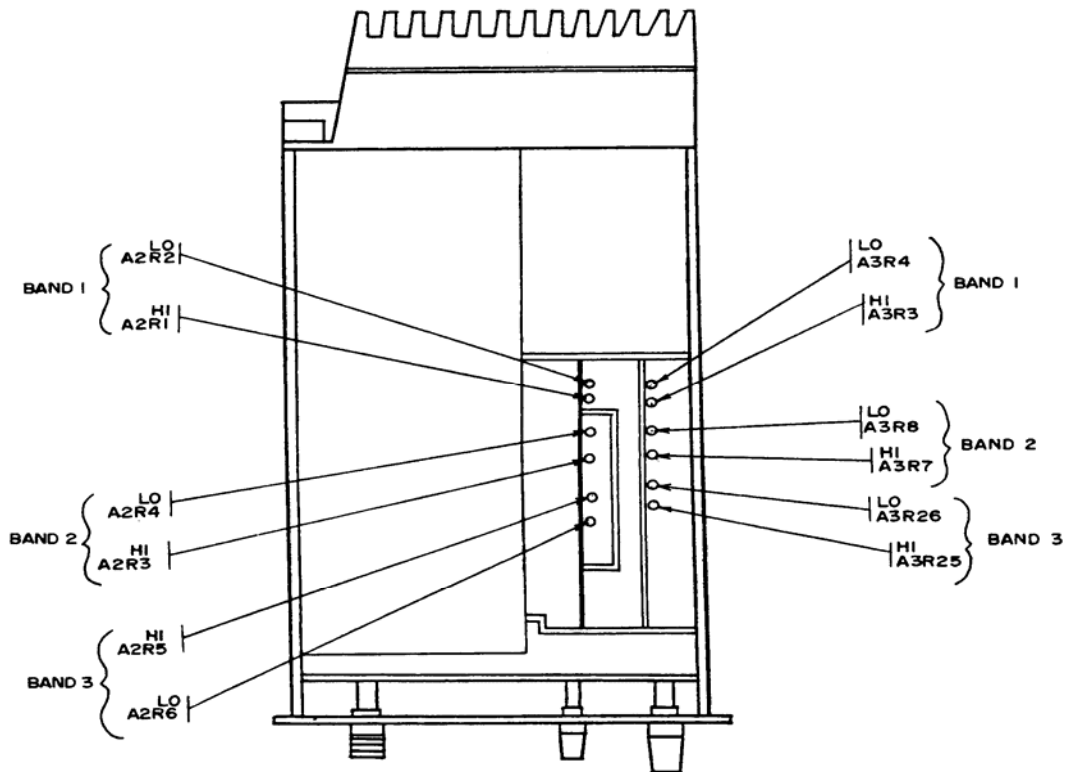

Figure 5. Model 86290A - top view.
(1) Adjust **BAND 1 LO A3R4** (fig. 5) for microwave frequency counter indication of 2.0 GHz, and **BAND 1 HI A3R3** (fig. 5) for 6.2 GHz (R).
(2) Adjust **BAND 2 LO A3R8** (fig. 5) for microwave frequency counter indication of 6.0 GHz, and **BAND 2 HI A3R7** (fig. 5) for 12.4 GHz (R).
(3) Adjust **BAND 3 LO A3R26** (fig. 5) for microwave frequency counter indication of 12.0 GHz, and **BAND 3 HI A3R25** (fig. 5) for 18.0 GHz (R).
(1) Adjust BAND 1 LO A2R2 (fig. 5) for maximum power over lower portion of **BAND 1 (R)**.
(2) Adjust BAND 1 HI A2R1 (fig. 5) for maximum power over upper portion of **BAND 1 (R)**.
(3) Adjust BAND 2 LO A2R4 (fig. 5) for maximum power over lower portion of **BAND 2 (R)**.
(4) Adjust BAND 2 HI A2R3 (fig. 5) for maximum power over upper portion of **BAND 2 (R)**.
(5) Adjust BAND 3 LO A2R6 (fig. 5) for maximum power over lower portion of **BAND 3 (R)**.
(6) Adjust BAND 3 HI A2R5 (fig. 5) for maximum power over upper portion of **BAND 3 (R)**.